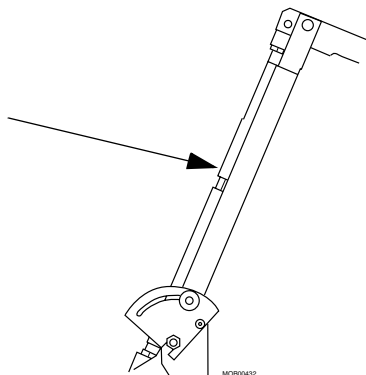

Fig. 24 Adjustment rod
34. Remove the adjustment rod by unscrewing it (Fig. 24). Mark the upper and lower end for proper reassembly.